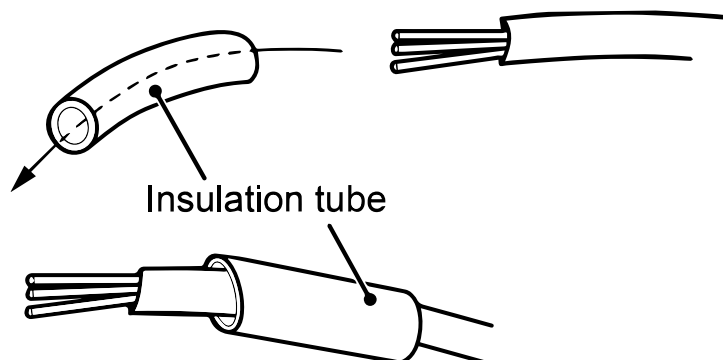

Fig. 2.28
**For all terminal wiring** (Refer to **Fig. 2.28**):
Lead the thermostat wires and power cord through the insulation tube (as shown in **Fig. 2.28**).